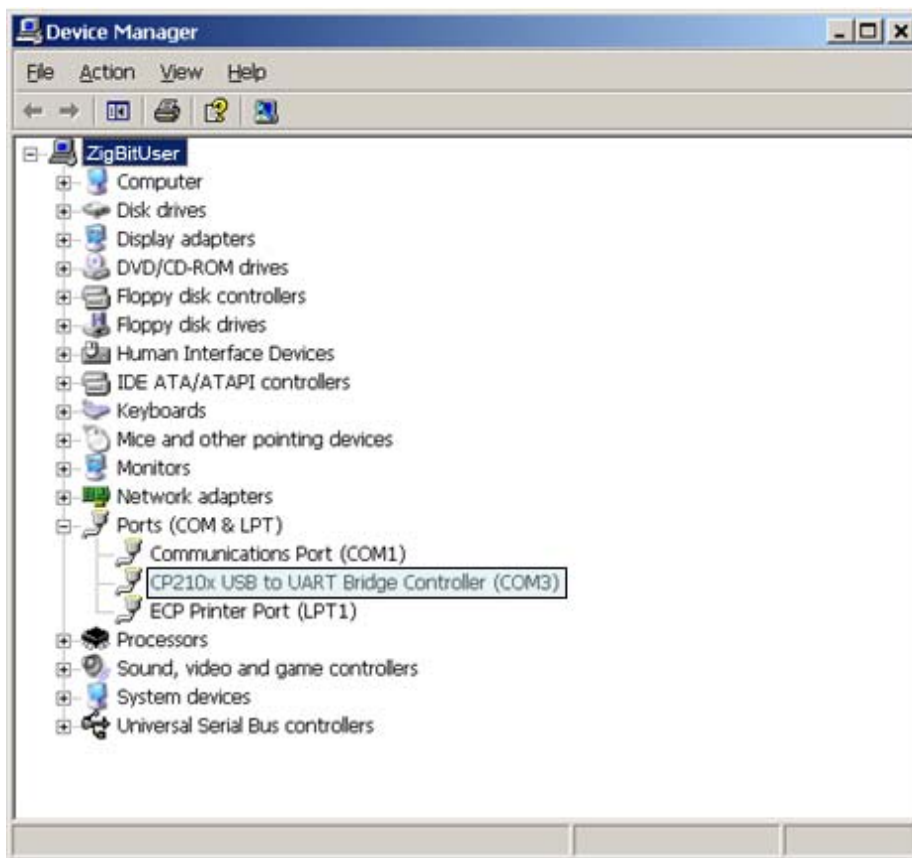

Figure 3. COM port drivers in the Windows Device Manager window
- Make sure that the driver is installed successfully and the new COM port is present in the device list. Open the Device Manager window shown in Figure 3: